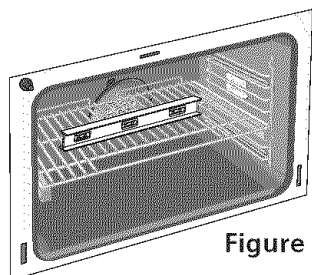

Figure 9
3. Check if the range is level by installing an oven rack in the center of the oven and placing a level on the rack (Figure 9).